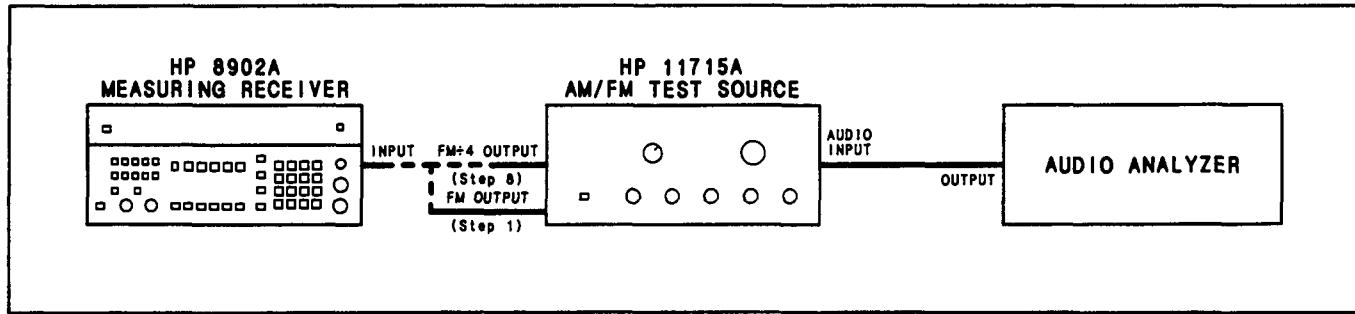

Figure 5–5. FM Distortion and Incidental AM—1.5 MHz Adjustment IF Test Setup
1. Connect the equipment as shown in Figure 5–5. (The AM/FM test source output can be connected either to a sensor module or directly to the Measuring Receiver's INPUT.)